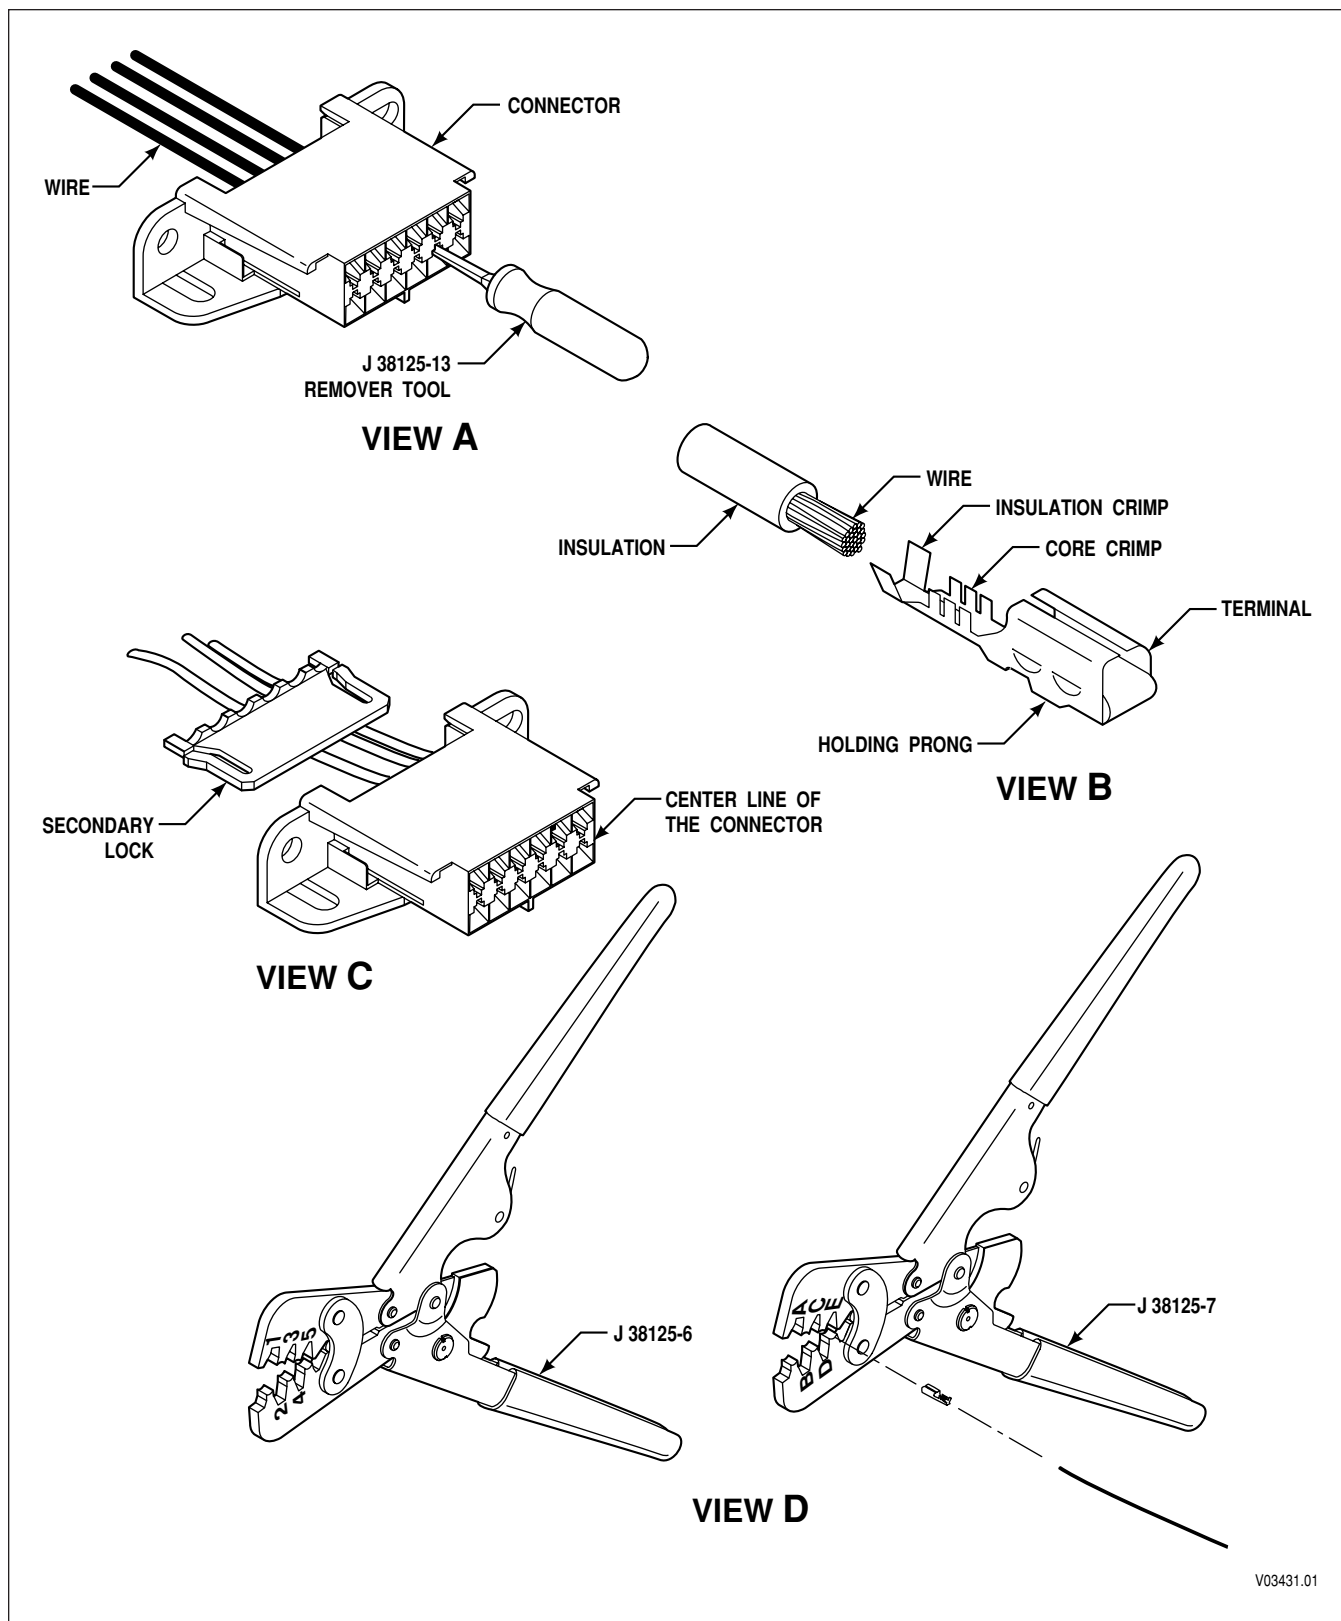

Figure E-6. Delphi-Packard Metri-Pack 280 Series Connectors—Push-to-Seat (Diagnostic Connector)
11. Insert terminal into connector with the locktab toward the center line of the connector (Figure E-6, View C).